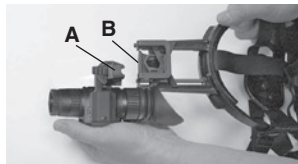

Figure 3.10
2. Align the adapter and the head/helmet mount. Slide the monocular rearwards until the alignment boss (Figure 3.10, A) aligns with the alignment groove (B) on the head/helmet mount. Push until the monocular locks into the head/helmet mount.